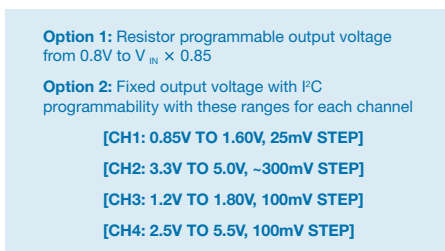

Figure 10. ADP5050 output voltage options.
**Dynamic Voltage Scaling:** Dynamic voltage scaling allows the system to reduce power consumption by dynamically lowering the power supply voltage on Channel 1 and Channel 4 for low-power modes, or it can dynamically change the output voltage depending on the system configuration and system loading. Also, the output voltages of all four buck regulators can be set via the I2C interface, as seen in Figure 10.